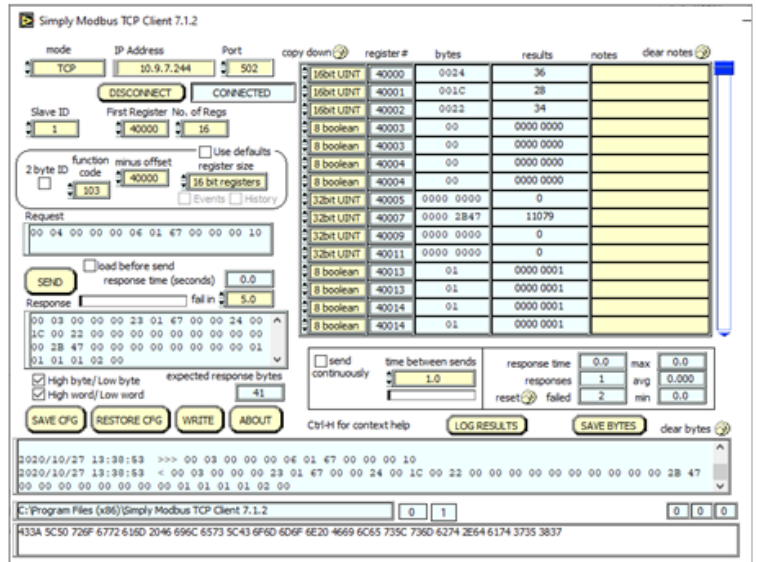

Figure 53.1.
- On the main screen click the Write button (A) near the bottom of the window as shown in Figure 53.1.